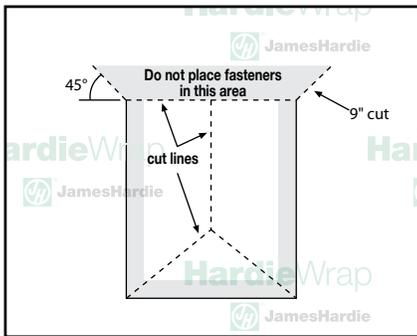

figure 3
**Step 1:** Use the inverted "Y" cut at rough window and door openings. Do not place fasteners within 9" of the rough opening, door or window heads. This area should not be fastened to allow for proper flashing installation. At the top corners of the rough opening, cut the weather barrier at 45° to extend 9" past the joint (fig. 3).